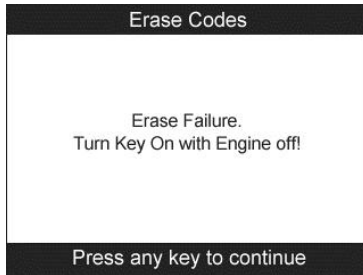

Figure 5.8
- If the codes are not cleared, then an “**Erase Failure. Turn Key on with Engine off!**” message appears. (Figure 5.8)